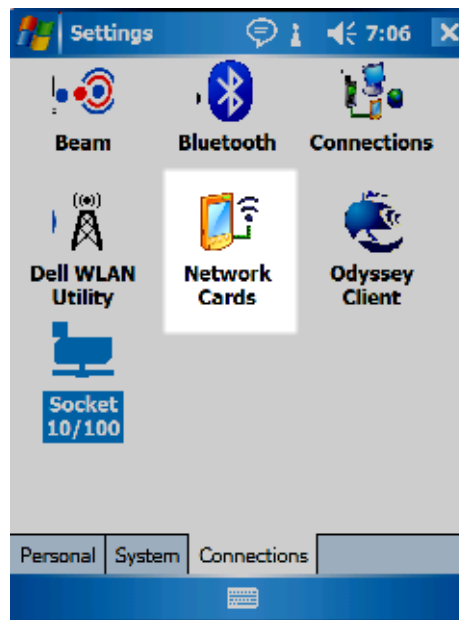

Figure 32: Network Cards icon
- From the Connections tab, tap the **Network Cards** icon (Figure 32). The Configure Wireless Networks window appears.